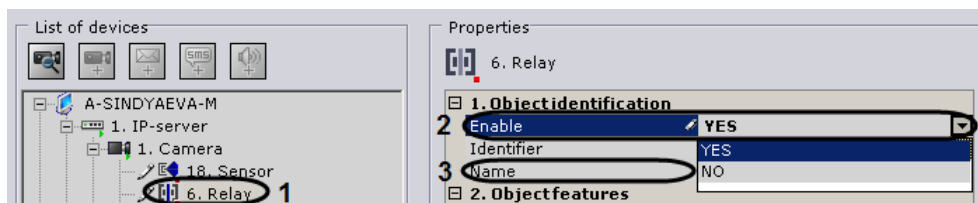

Fig. 6.3—19 Configuring a Relay Object
2. Enable the device (Fig. 6.3—19, 1).
3. Enter the name of the relay (see Fig. 6.3—19, 2).